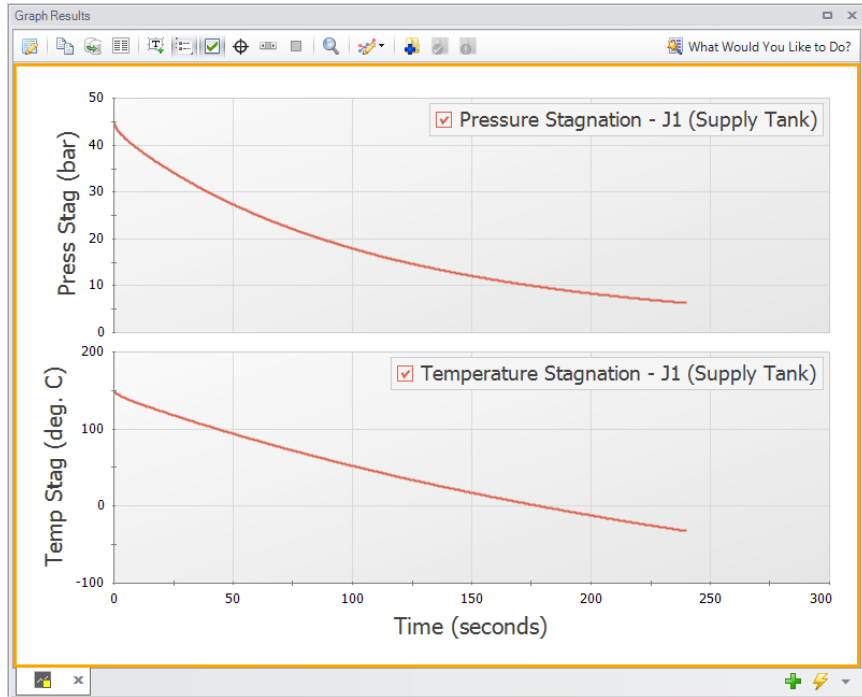

Figure 2.31 The Transient Junction graph shows how variables within a junction change over time, such as with the temperature and pressure of Tank J1
- **Click the Generate button.** These graphs show the tank pressure and temperature initially decrease quickly, then decrease more slowly as time progresses. This change in slope is due to a decreasing pressure gradient between the tank and the atmosphere as the tank is emptied, which slows the mass flow rate out of the tank (Figure 2.31).
In AFT xStream, sectioning plays an important role in model accuracy. Due to how the MOC operates, accuracy increases with the number of sections you have in the model. To illustrate this, the model was re-run with a Minimum Number of Sections Per Pipe of 6 instead of 1. Comparing Figure 2.31 to Figure 2.38, values such as the temperature and pressure for Tank J1 remain similar with the increase in the number of sections. However, values such as the maximum temperature reached in Pipe P2 (Figure 2.20 and Figure 2.36), changed substantially. This value increased from 919 deg. C to 1203 deg. C. This change in the maximum temperature indicates that the difference in sectioning has significant implications if your interest is in the conditions in the blowdown pipe. It should be noted that changing the Minimum Number of Sections Per Pipe from 1 to 6 caused the computation time of the model to increase from a couple minutes to about 1.75 hours. Therefore, it is of critical importance to balance accuracy and computation time when using AFT xStream.